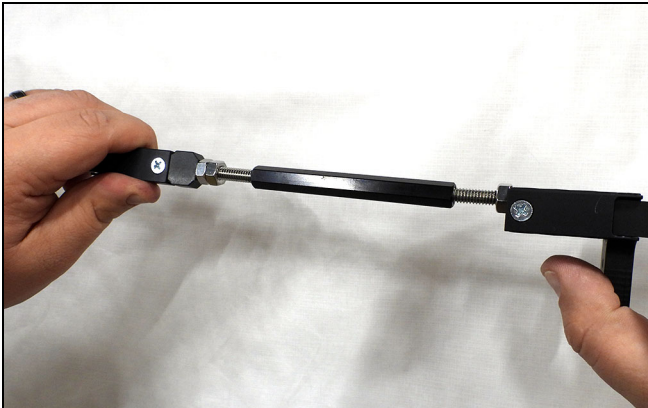

Figure 28
1. Loosen turnbuckle until there are 5 threads of engagement on each side. See Figure 28